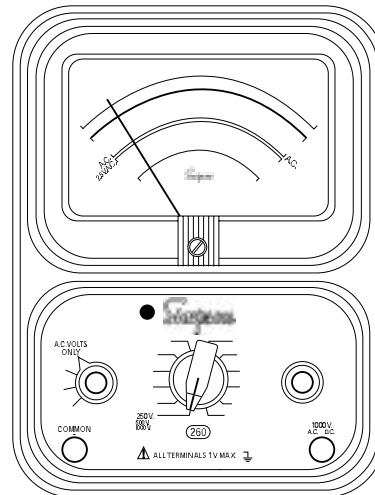

Figure 4-8. Jacks and Switch Positions for Measuring AC Voltage, 0-1000V Range
- a. Set the function switch at AC Volts Only position. (Figure 4-8).